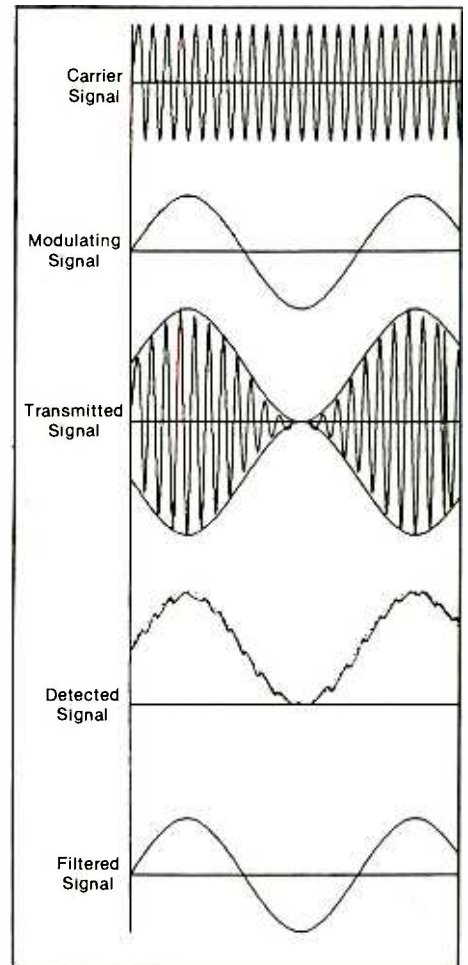

Fig. 2. Representations of modulation, transmission, detection and filtering of a signal.
Graphic examination of DSB-C transmission and reception demonstrates the economy of this format. Referring to Fig. 2, carrier signal (A)
The demodulated signal exiting the detector is usually ragged, as shown in Fig. 2(D). After final filtering, raggedness is removed, producing a clean signal like that in Fig. 2(E).